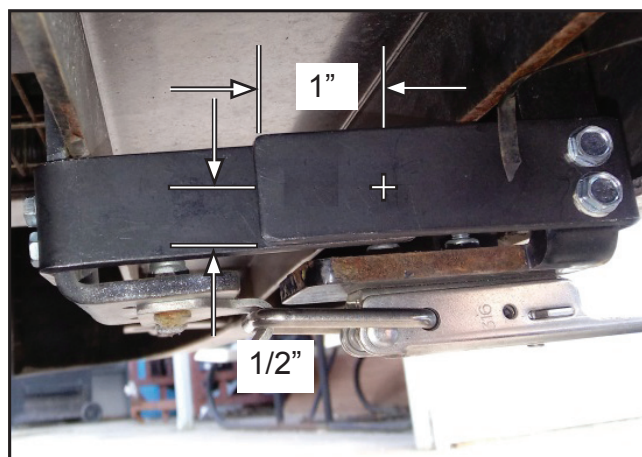

Figure 10
10. On the overlapping bracket, measure 1" in from the end and 1/2" up from the bottom and drill a 5/32" pilot hole thru both brackets; see Figure 10. Using the pilot hole, now drill thru both brackets with a 17/64" drill bit.